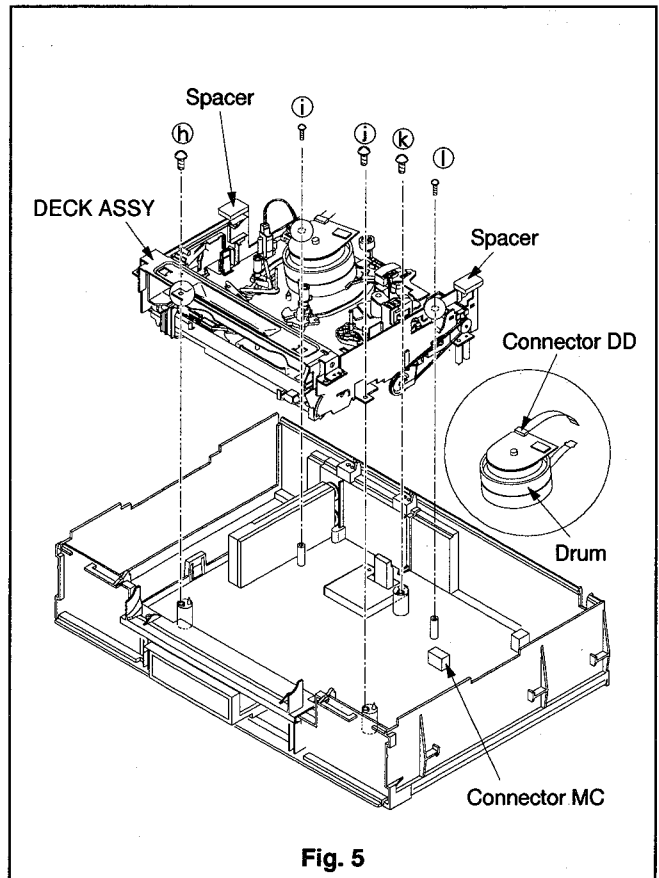

Fig. 5
- 7 Remove the five screws (h ~ l) shown in Fig. 5.